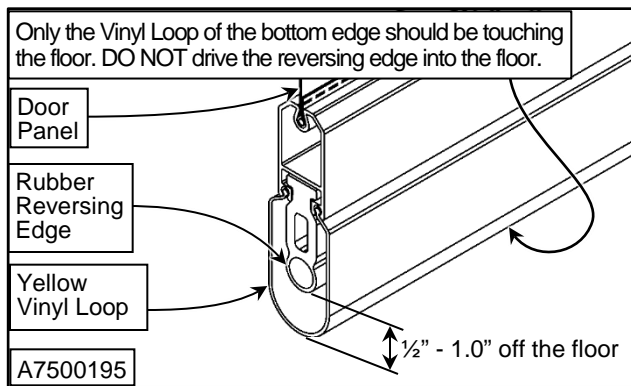

Figure 21
- With the door in the closed position, check the yellow vinyl loop on the bottom bar. It should be in the position as shown in Figure 21.
**Damage to the rubber reversing edge or other bottom bar parts can occur if the door is allowed to seal too tightly against the floor. (See Figure 21)**